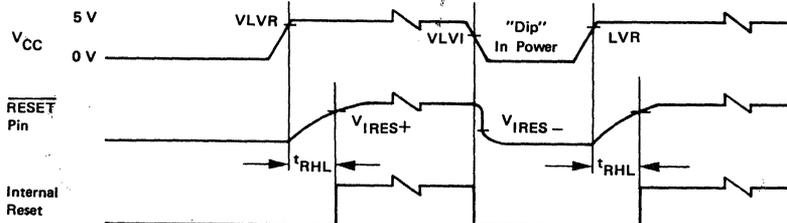
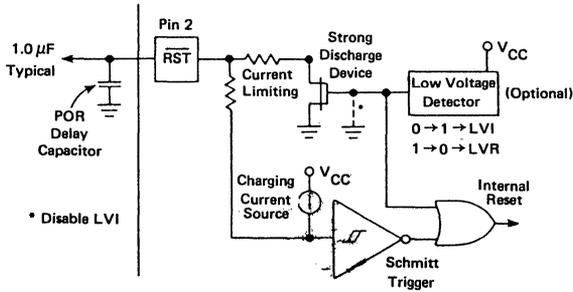

FIGURE 13 – POWER AND RESET TIMING
FIGURE 14 – RESET CONFIGURATION
**Power-On Reset (POR).**— An internal reset is generated upon powerup that allows the internal clock generator to stabilize. A delay of  $t_{RHL}$  milliseconds is required before allowing the RESET input to go high. Refer to the power and reset timing diagram of Figure 13. Connecting a capacitor to the RESET input (as illustrated in Figure 14) typically provides sufficient delay. During powerup, the Schmitt trigger switches on (removes reset) when RESET rises to  $V_{IRES+}$ .